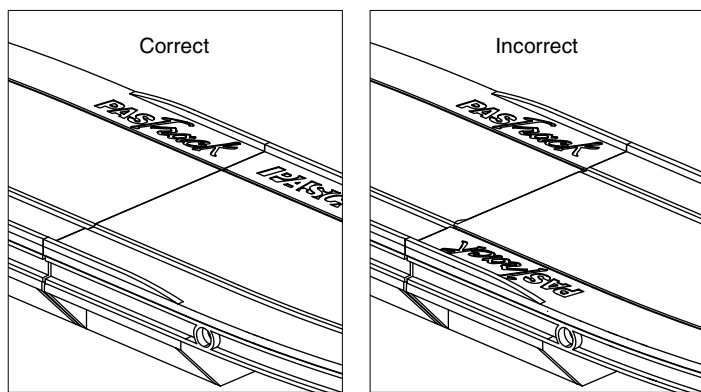

Figure 2: Ensure that the wide and narrow grooves match from one section to the next.
Ensure that the wide and narrow grooves match from one section to the next (see Figure 2).
*NOTE: Every track section has one narrow groove and one wide groove. Orient the pieces so that the grooves match from one section to the next (see Figure 2).*